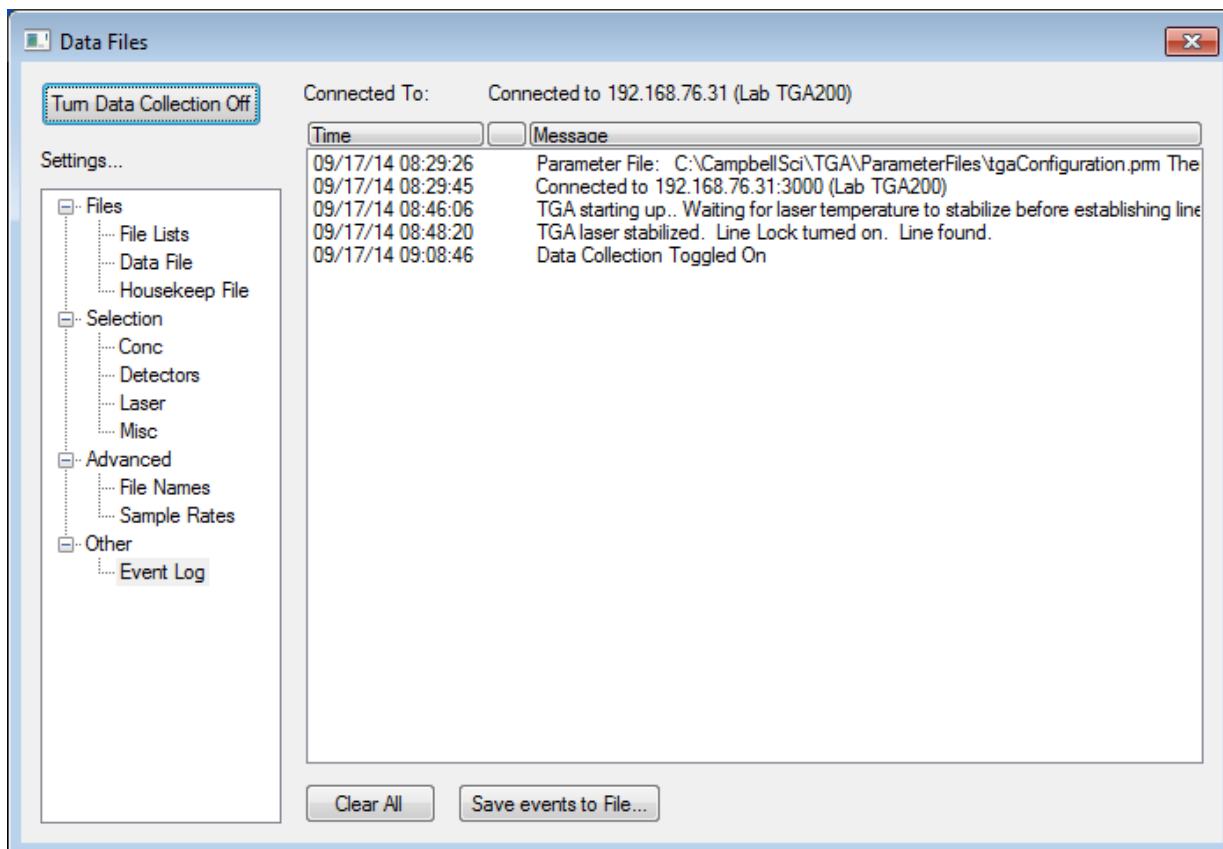

FIGURE 7-46. Example of log file messages
**Event Log** – View or save a log of the status of the communication with the TGA. An example of the messages in the log file is shown in FIGURE 7-46.